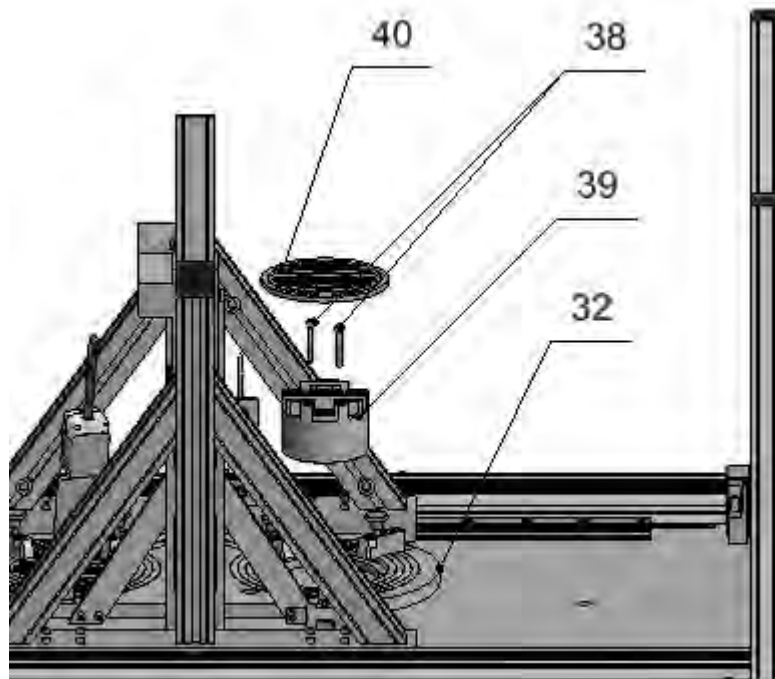

Fig.16
30. Using two M5x40 screws (38) fix weighing pan ring (39) to spacer ring (31). (Fig.16)
31. Place holder grill (40) onto weight holder (32). (Fig.16;13)